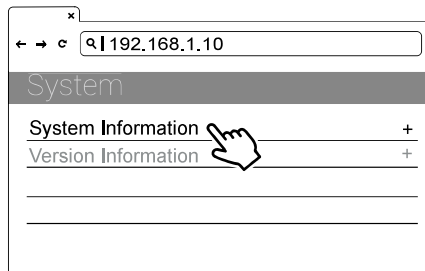

Figure 40. Date and Time Information
- 3) Select: SET | Network | System Information | System DateTime. See figure 40.